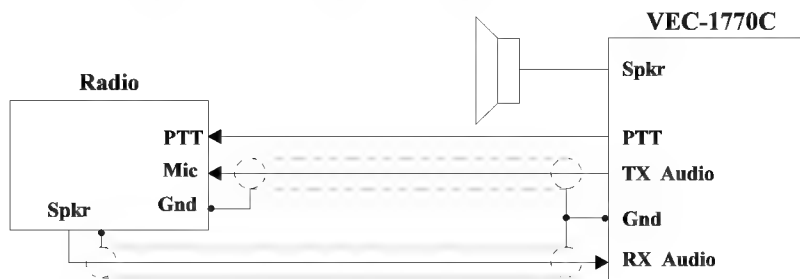

Fig. 3-5 Method One Interconnect.
For Method 1, shown in Fig. 3-5, the TNC2's audio will be fed directly into the microphone connector or similarly connected auxiliary jack, and the output of the TNC2 will be adjusted to give a proper modulation level. The receiver audio will be taken from an earphone plug or speaker jack and fed directly to the TNC2. A monitor speaker can be connected to the SPEAKER jack of the TNC2. This allows you to monitor the channel.
1. Connect your TNC2 and radio as shown in Fig. 3-5. Turn on the TNC2 and computer and start your terminal program. Connect the radio to a dummy load and listen to the transmission with another nearby radio.